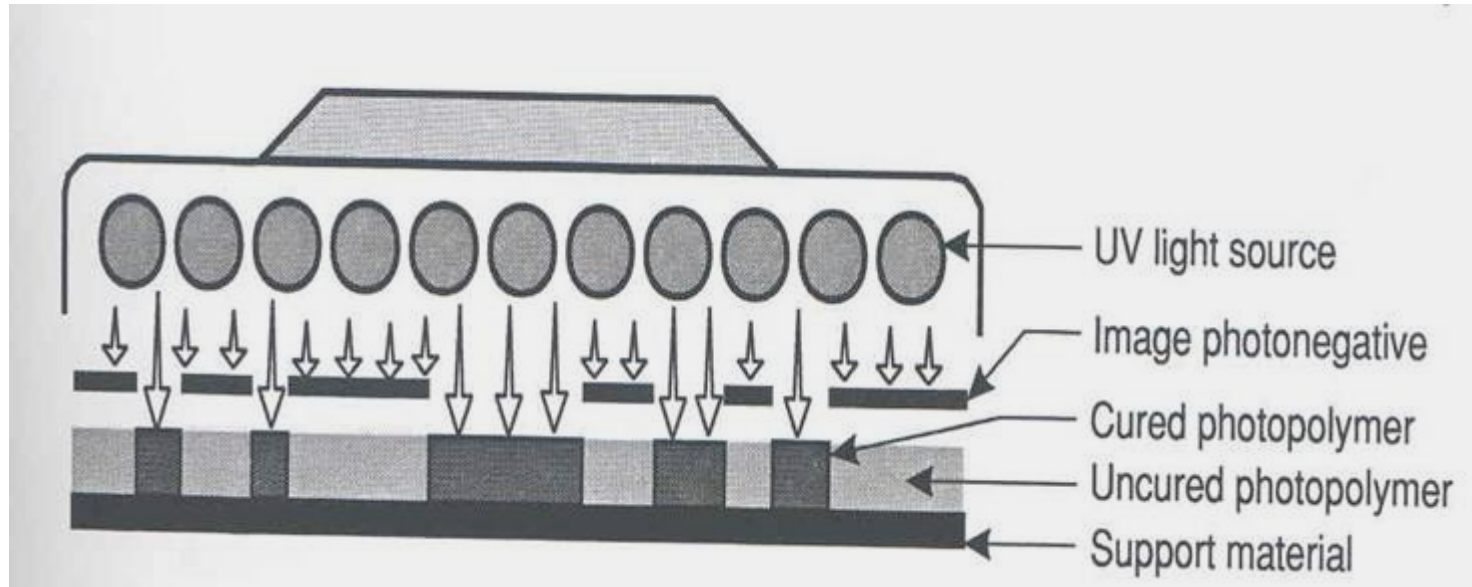

Figure 11.1 UV light projected through the image photonegative will cure photopolymer. Uncured polymer can be washed away, leaving the raised image areas
Modern relief printing plates are made from rubber, photopolymer or occasionally metal, depending on the application. Plates are modest in cost and can be made quickly. Nearly all are made by photographically imposing the image recorded on a photonegative onto a light-sensitive material. In the case of photopolymers, the polymer hardens where exposed to ultraviolet (UV) light and remains fluid where unexposed. The unexposed part is then dissolved away. (See Figure 11.1)